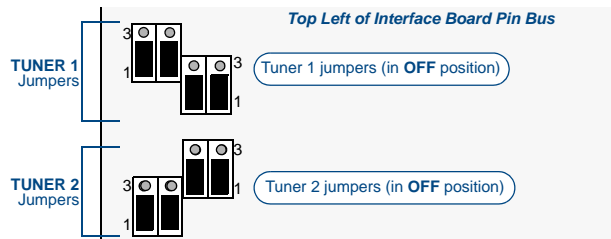

FIG. 9 Audio Controller Jumper Configuration (Dual Tuners)
4. Place all jumpers in the "Off" position (FIG. 9).